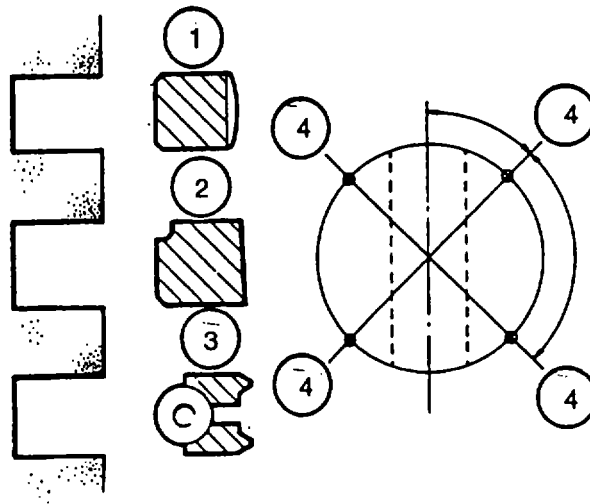

FIGURE 3-37. Piston Ring and Gap Location
- f. Use a piston ring expander and install piston rings (6) with word TOP facing up as follows, refer to FIGURE 3-37:
- (1) Lower groove - oil control ring.
- (2) Middle groove - compression ring.
- (3) Top groove - firing ring.